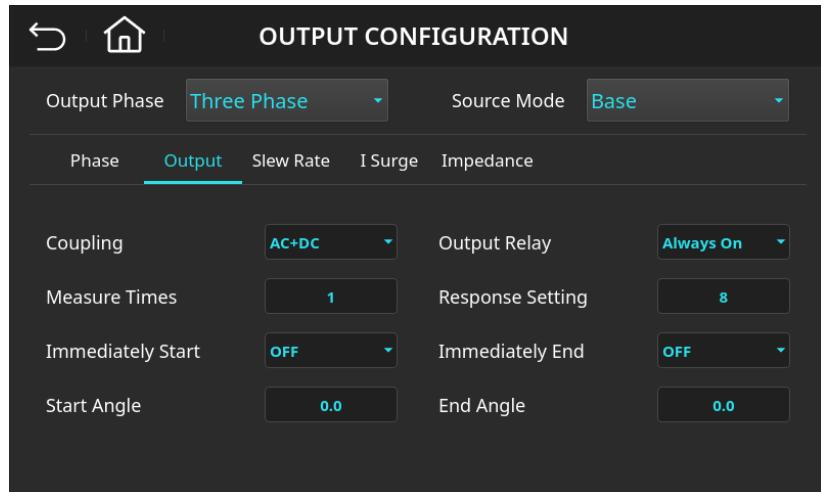

Figure 4-37: Output Configuration (Output) Page – Output Relay Set to "Always On"
3. Select “Always On” to complete the setting, as shown in Figure 4-37.